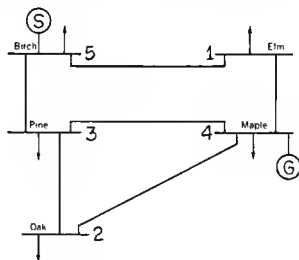
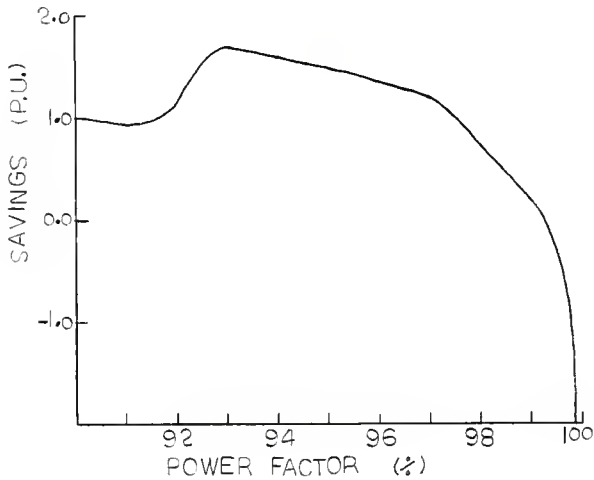

Figure 3: Power System # 2.
Figure 4: Savings v.s. Power Factor for System # 2.
2. The power system that will be considered next is shown in Fig. 3[5]. P.U. Line impedances and P.U. values of real power (P), reactive power (Q), voltage magnitude (V), and voltage phase (θ) at each bus are given in Table 3.
Load flow output for the system of Figure 3 is shown in Appendix A.9. Benefits, capacitor costs, and savings are shown in Table 4. A plot of savings in per unit v.s. power factor can be seen in Figure 4. The costs and benefits are equal at the economic power factor which is found to be 99.25%.